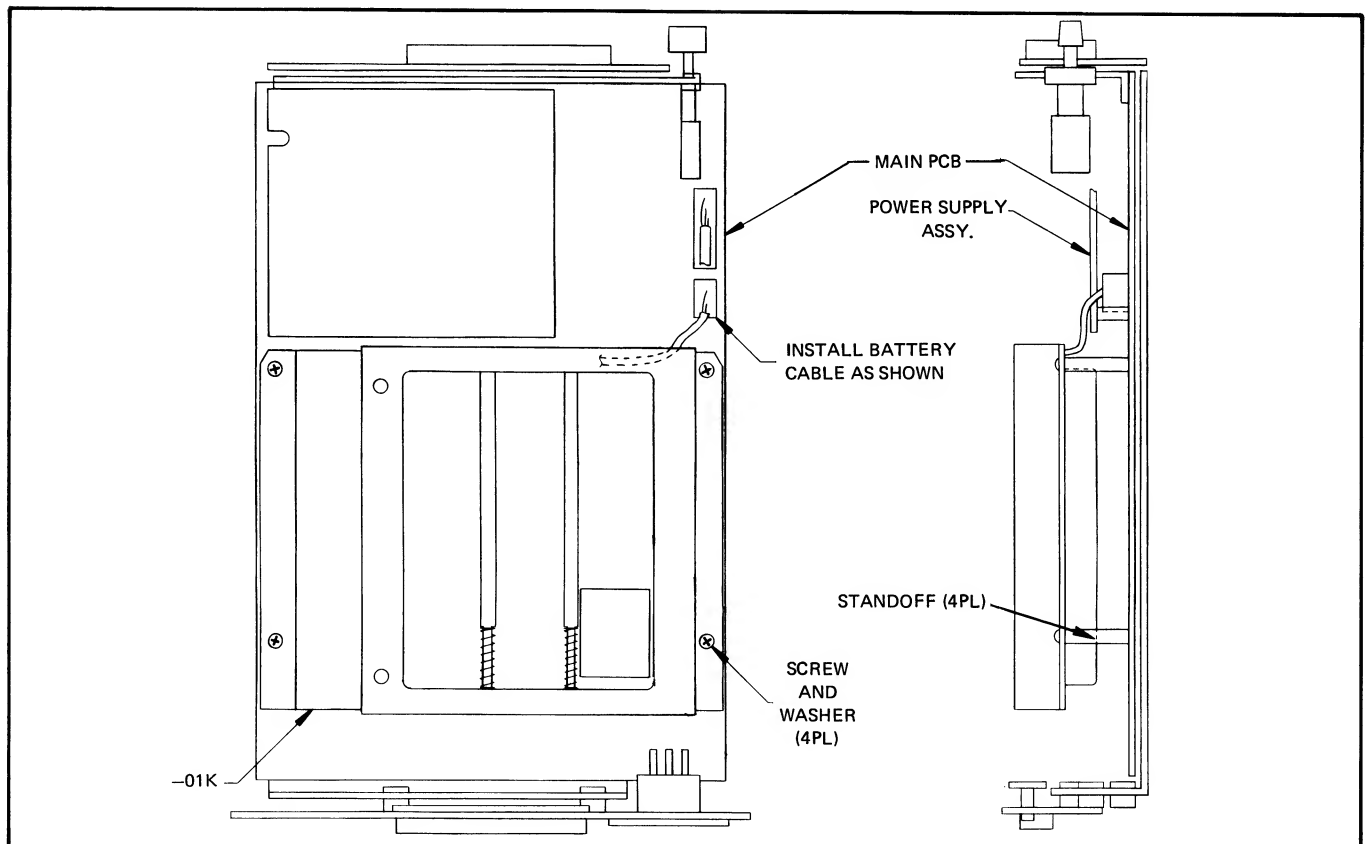

Figure 6-7. BATTERY PACK INSTALLATION
- d. Remove four screws from the Main PCB to allow the four standoffs of the battery pack to set on the board (see Figure 6-7).